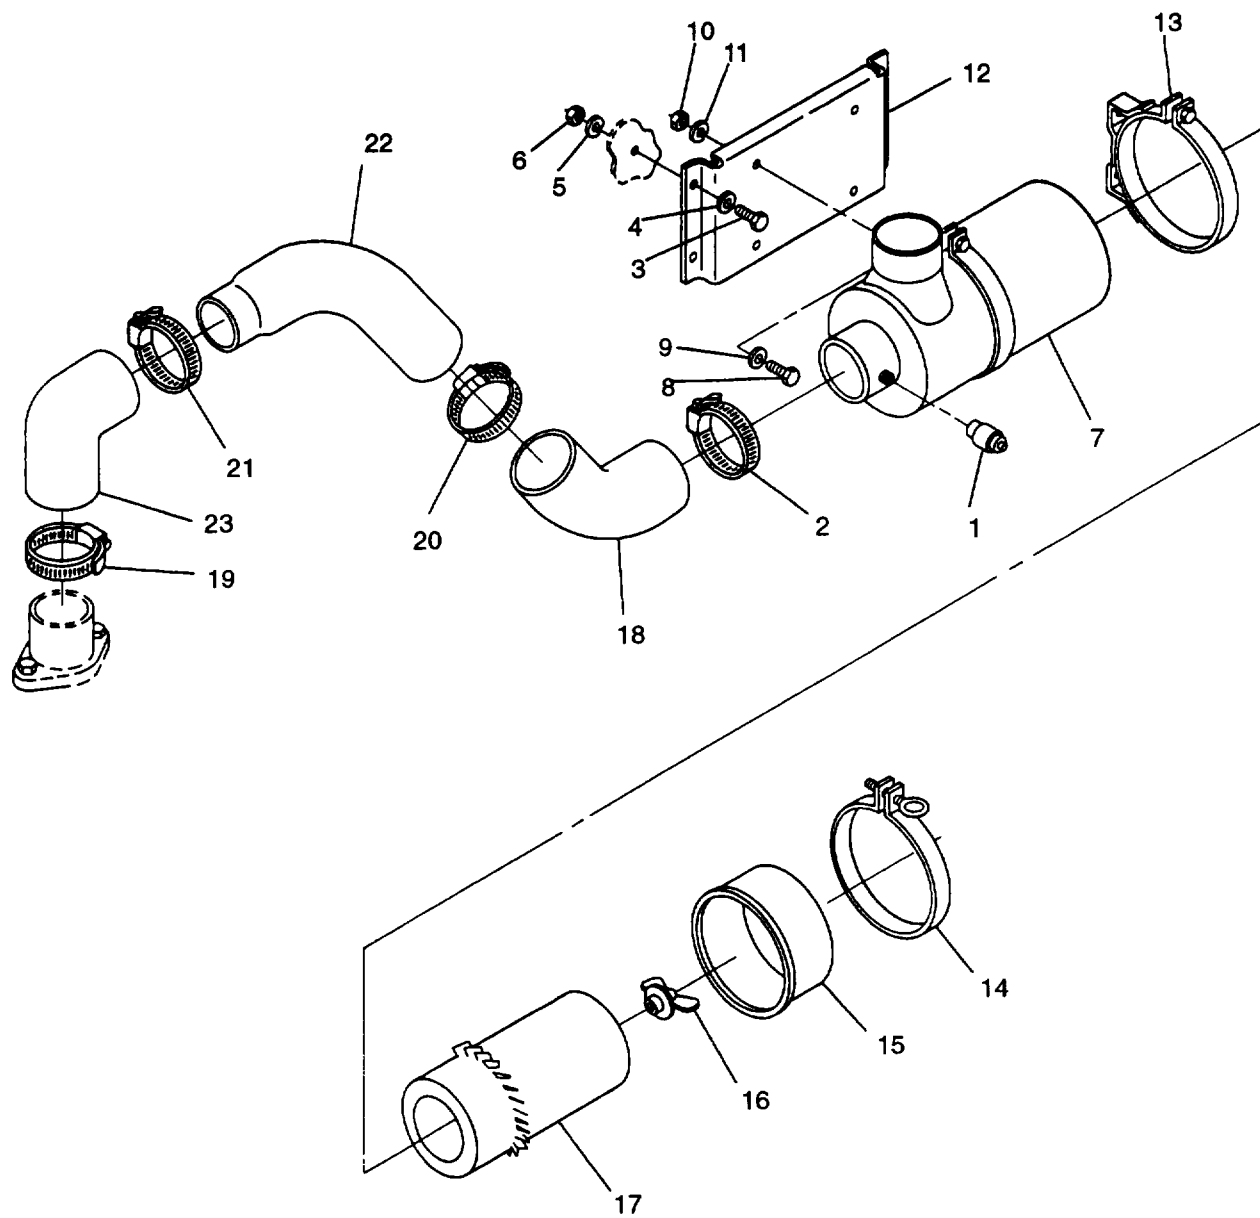

FIGURE 2-21. Air Cleaner Assembly
- c. Inspect air restriction indicator (1, FIGURE 2-21) for cracks, stripped threads, or other obvious damage.
- d. Loosen clamp (2, FIGURE 2-21) and remove hose (18) from air cleaner housing (7).
- e. Remove bolts (3), washers (4), lockwashers (5), nuts (6), mounting bracket (12), and air cleaner assembly from generator set,
- f. Remove bolts (8), washers (9), nuts (10), lockwashers (11), and mounting bracket (12) from air cleaner assembly.
- g. If replacing air cleaner, remove and retain clamps (13).
- a. If removed, install clamps(13, FIGURE 2-21) on air cleaner housing (7).
- b. Install mounting bracket (12) on air cleaner assembly with bolts (8), washers (9), lockwashers(11), and nuts (10).
- c. Install air cleaner assembly and mounting bracket (12) on generator set with bolts (3), washers (4), lockwashers (5), and nuts (6).
- d. Install hose (18) and clamp (2) on air cleaner housing (7). Tighten clamp (2).
- c. Loosen clamp (14, FIGURE 2-21) and remove cover(15) from air cleaner housing (7).
- d. Remove wing nut (16) and filter element(17) from air cleaner housing (7).
- c. Inspect element (17, FIGURE 2-21) for debris and damage, replace as necessary.
- d. Wipe inside of air cleaner housing (7) with cleaning cloth (Item 7, Appendix C).
- a. Install filter element (17, FIGURE 2-21) in air cleaner housing (7) and tighten wing nut (16).
- b. Install cover(15) on air cleaner housing (7), tighten clamp (14).
- c. Loosen clamps (2 and 19, FIGURE 2-21).
- d. Remove hoses (18), (22), and (23).
- e. Loosen clamps (20) and (21) and separate hoses (18), (22), and (23).
- a. Connect hoses (18 and 22, FIGURE 2-21) with clamp (20). Do not tighten clamp.
- b. Connect hose (22) to hose (23) with clamp (21). Do not tighten clamp.
- c. Install hoses (18), (22), and (23), and secure with clamps (19) and (2).
- d. Tighten clamps (2), (19), (20), and (21).